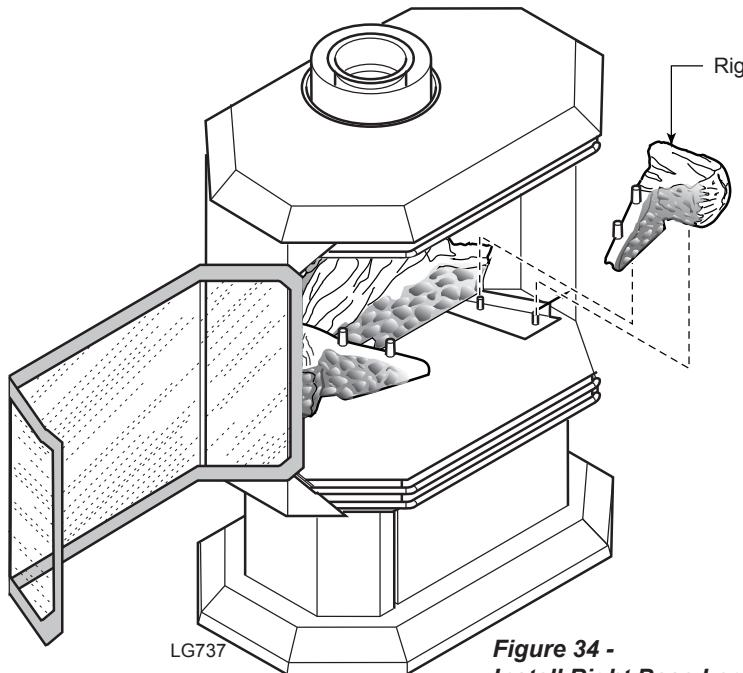

*Figure 32 -
3. Place rear log against back of firebox. *Figure 32*